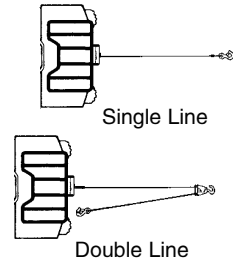

Figure 2
1. Maximum working load capacity is on the wire rope layer closest to the drum. **DO NOT OVERLOAD. DO NOT ATTEMPT PROLONGED PULLS AT HEAVY LOADS.** Overloads can damage the winch and/or the wire rope and create unsafe operating conditions. **FOR LOADS OVER 1,000 POUNDS (454 kg), WE RECOMMEND THE USE OF THE OPTIONAL PULLEY BLOCK TO DOUBLE LINE THE WIRE ROPE (Figure 2).** This reduces the load on the winch and the strain on the wire rope by approximately 50%. Attach hook to load bearing part. The vehicle engine should be running during winch operation. If considerable winching is performed with the engine off, the battery may be too weak to restart the engine.